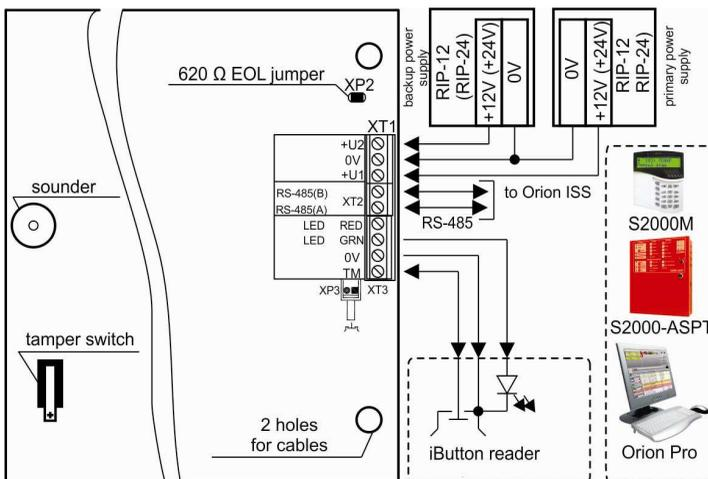

Figure 3. S2000-PT Connection Diagram
2.2.1 Connect wires to the terminals as shown in Figure 3.
2.2.5 Unless the module is the last or the first device in the RS-485 interface bus, remove the EOL jumper from the module’s PCB (see Figure 3).